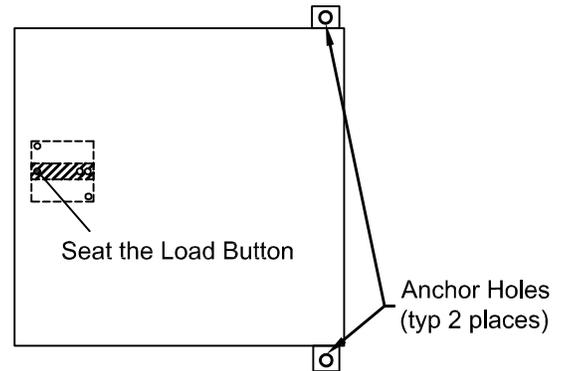

Figure 3
- B. Mark hinge anchor holes (Figure 3), install anchors and secure platform to floor.